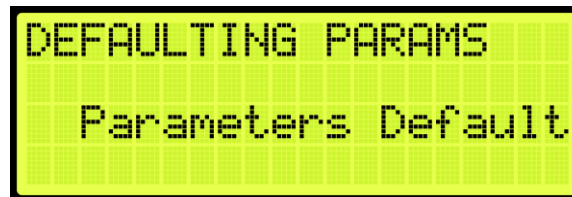

Figure 473: DEFAULTING PARAMS Menu – Parameters Defaulted
- When the system has completed defaulting all parameters, the DEFAULTING PARAMS menu displays Parameters Defaulted (See Figure 473).